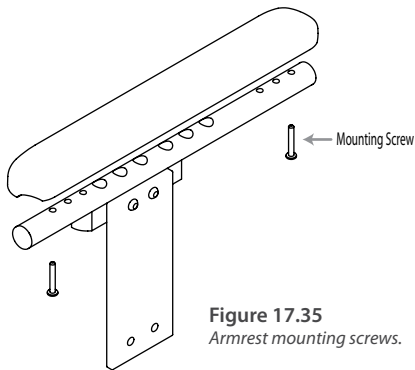

Figure 17.35
- 1 Remove the mounting screws from the armrest base (See Figure 17.35).